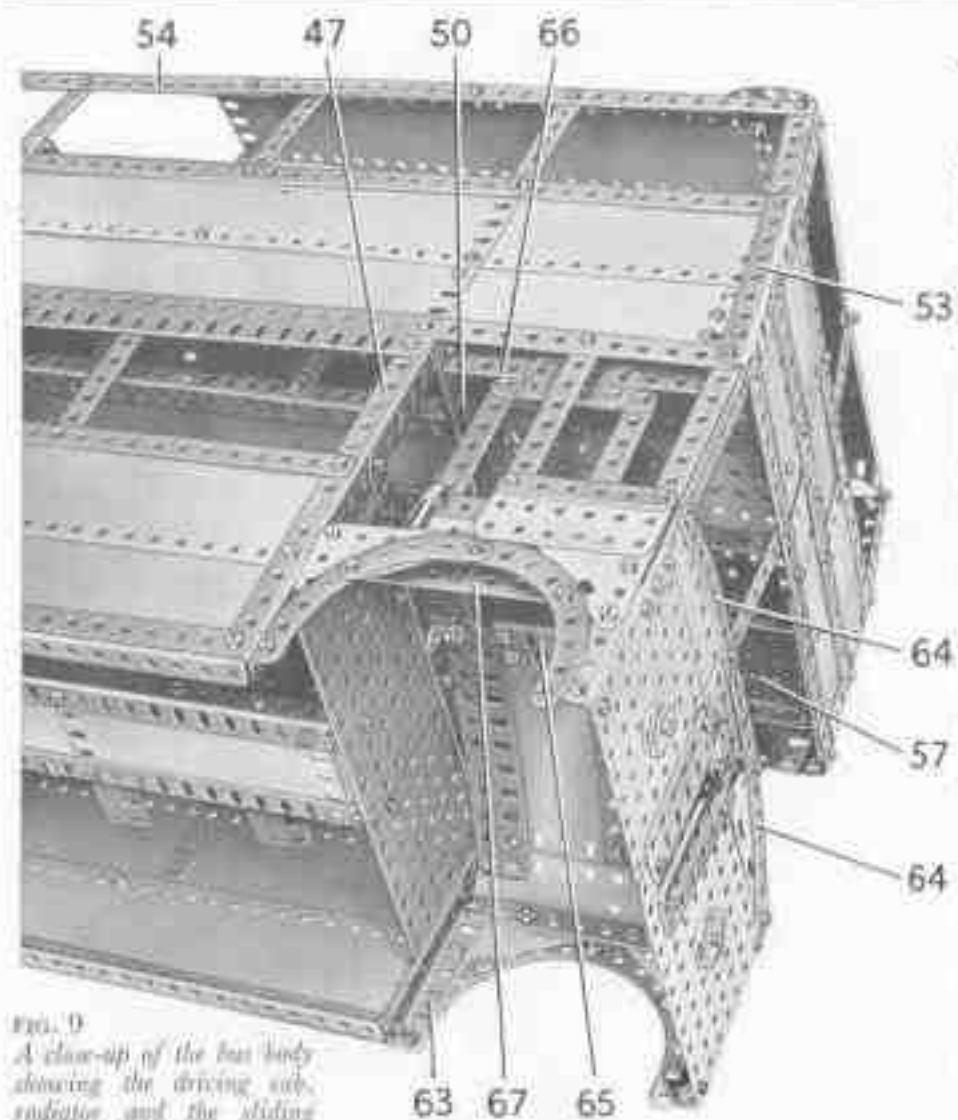

FIG. 9
The side of the bonnet (Fig. 1) is a 5 1/2" x 1 1/2" Flexible Plate curved lengthways and bolted to a 3" Angle Girder (63) (Fig. 9). A 2 1/4" x 1 1/4" Triangular Flexible Plate and a 2 1/4" x 2" Triangular Flexible Plate cover the near-side wheel arch. The front of the bonnet is made from two 3 1/2" x 3 1/2" Flat Plates overlapped three holes and bolted to 3" Angle Girders, which are attached to the sides of the cab and bonnet. The Flat Plates are extended upward by a 5 1/2" x 1 1/4" and a 2 1/4" x 1 1/4" Flexible Plate overlapped four holes, and by a 3 1/2" x 1 1/4" Triangular Flexible Plate. The tops of these Plates are edged by two 5 1/2" Curved Strips (64).
The sliding door consists of two 3 1/2" Strips joined by a 3" Strip and a 3" x 1 1/4" Flat Plate. A 5 1/2" x 1 1/4" Double Angle Strip (66) is arranged as shown in Fig. 9, and a 3 1/2" Strip (67) is supported at each end by an Angle Bracket. A Fishplate bolted to the Flat Plate of the door slides between the Strip (67) and the edge of the Girder (62). A 2" Flat Girder is bolted to each side of the 3" Strip of the door, but one of them is spaced from the Strip by a 2" Strip. The Flat Girders slide freely on either side of the Double Angle Strip (66).